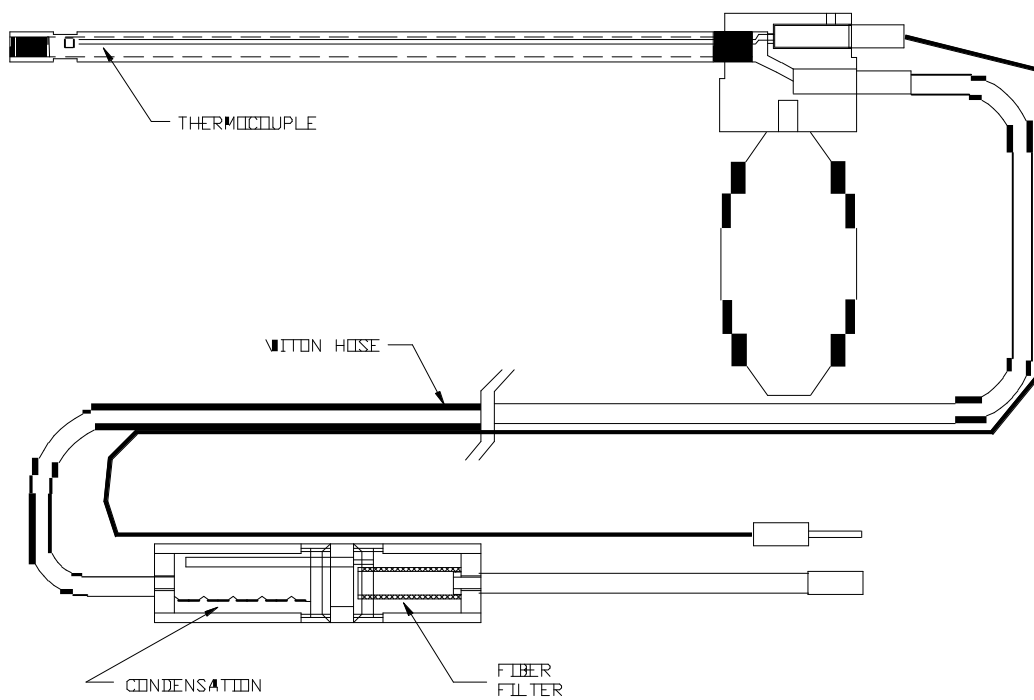

FIGURE 1
During operation, the metal tube of the probe (see figure 1) is inserted into the stack. A small pump located inside the unit draws a sample of the stack gases into the instrument for analysis. The probe assembly and sensor housing are described below.
- A condensation trap and particulate filter assembly to remove the excess water and clean the sample. The condensation trap is mounted for convenience to the side of the hand-held analyzer. Figure 1 shows the probe assembly. The optional thermoelectric cooler assembly replaces the condensation trap.